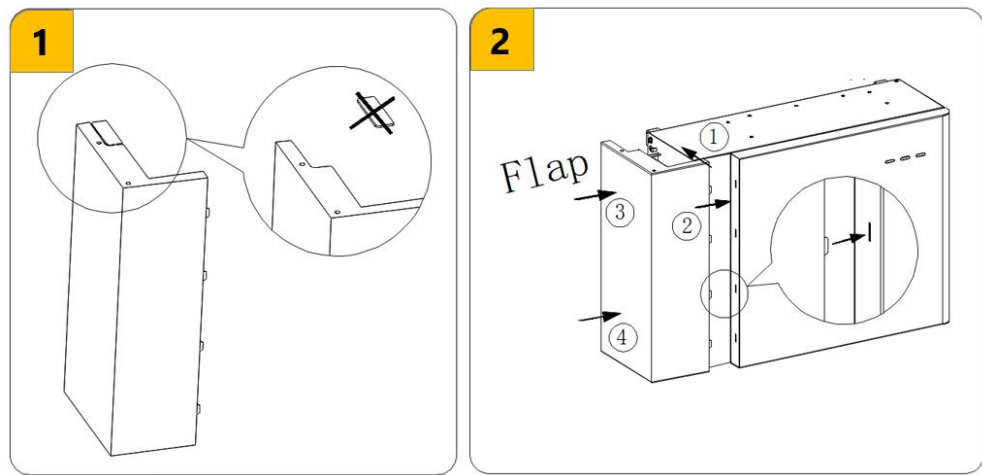

Figure 6-31 Install the cable cover for the battery
4. Mount the cable cover of the battery, Refer to 1-2 in Figure 6-31.